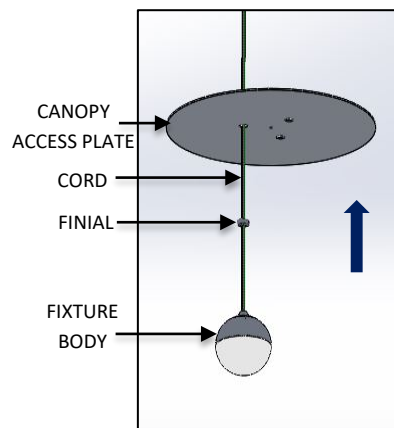
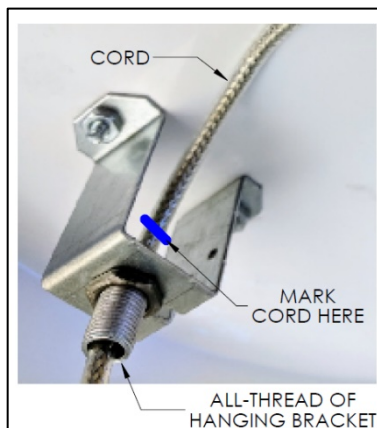

FIG. 7 – FIXTURE INSTALLATION
FIG. 8 -CORD INSTALLATION
4. Raise the GLOWBALL FIXTURE BODY and feed FIXTURE CORD through FINIAL, the hole in CANOPY ACCESS PLATE and FIXTURE BRACKET as shown below in FIG. 7. Adjust fixture drop to desired height. Mark cord with marker inside of HANGING BRACKET as shown below in FIG. 8. Trim off excess cord leaving minimum of 8.00" past the top of the DRIVER MOUNTING BRACKET all thread.